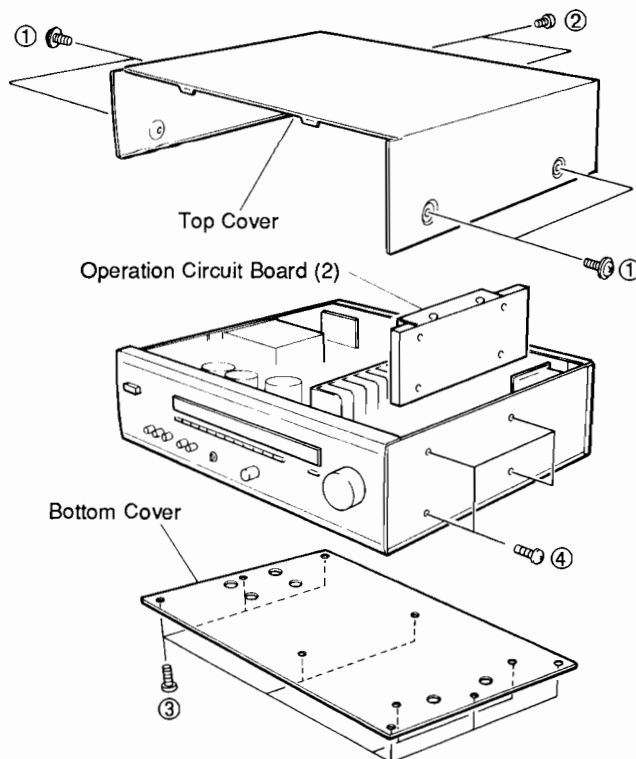

Fig. 1
- Remove 4 screws (①) and 2 screws (②) in Fig. 1.
Remove 10 screws (③) in Fig. 1.
3. Removal of Operation Circuit Board (2)
Remove 4 screws (④) in Fig. 1.